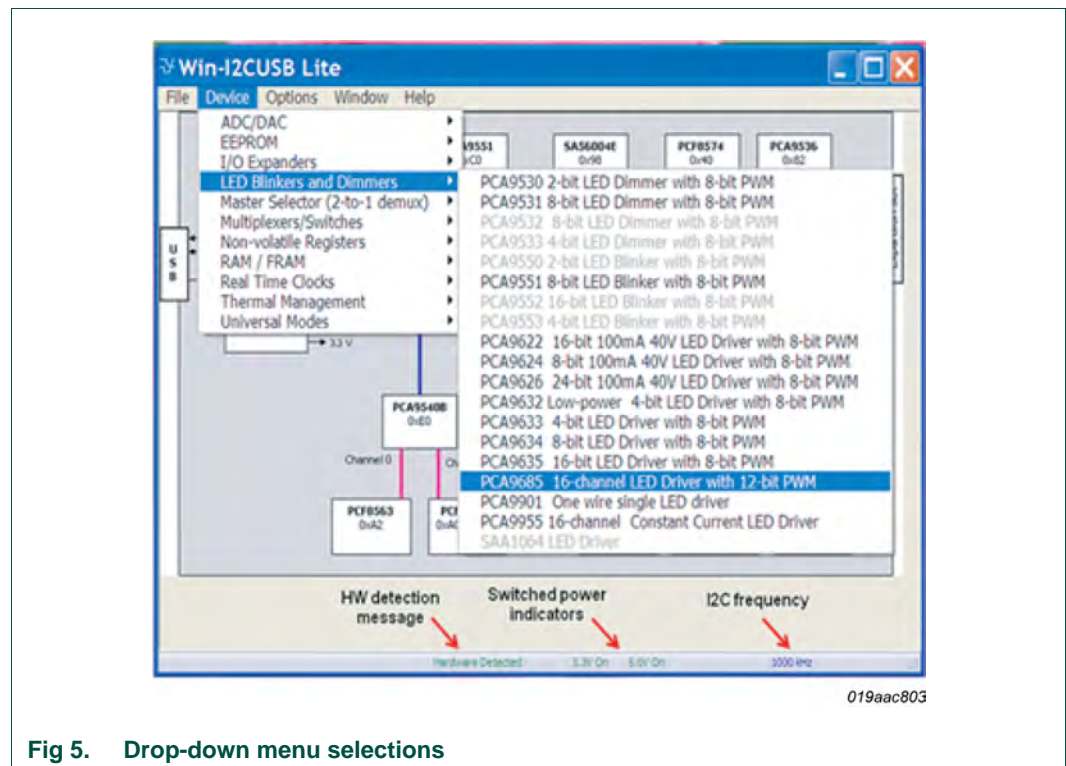

Fig 5. Drop-down menu selections
Connect the hardware as described in Section 4. The PCA9685 demo board address is set to 0x80 on DIP switch (S1) as A[0:5] = S1[1:6] = 000000 (0 → ON, 1 → OFF). When you have correctly installed the software and the demonstration board hardware is connected and recognized by the computer, start the Win-I2CUSB Lite software. As shown in Figure 5, when the demonstration board hardware is correctly connected to the USB port and the computer recognizes it, the message 'Hardware Detected' is displayed on the bottom of the window.
1. From the 'Device' drop-down menus, select 'LED Blinkers and Dimmers', and from the subsequent drop-down menu select 'PCA9685 16-channel LED Driver with 12-bit PWM' as shown in Figure 5.